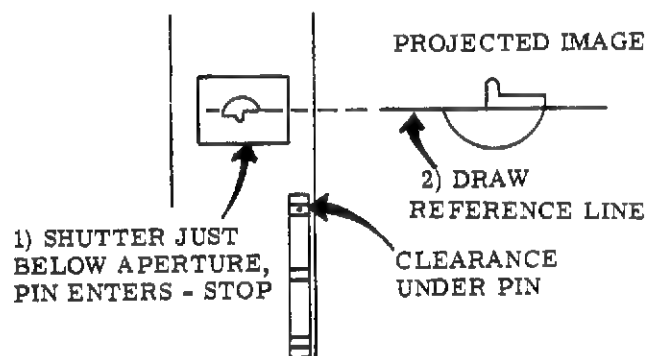

Figure 3-23. CLAW PULL DOWN STROKE SET-UP
6. Turn the Lamp on and project an image at least 8" wide (a wide angle lens will help achieve this width at a shorter projection distance), raise the elevation approximately 1" (this will get you set up in case the Stroke is in need of adjustment), and draw a reference line the full width of the Target on the bottom step (Figure 3-23).